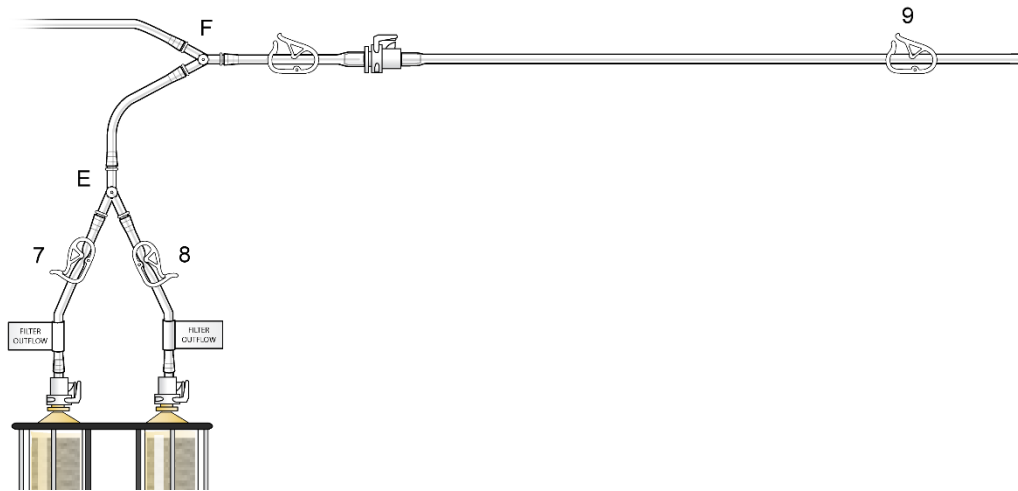

Figure 10
- (i) Remove the "Prime/Flush Line" from its sterile pouch and attach it to the quick connect coupling located proximal to Y-connector "F", as shown in Figure 10. Place the open end of the "Prime/Flush Line" into the basin for collecting the flushed effluent during filter hydration.